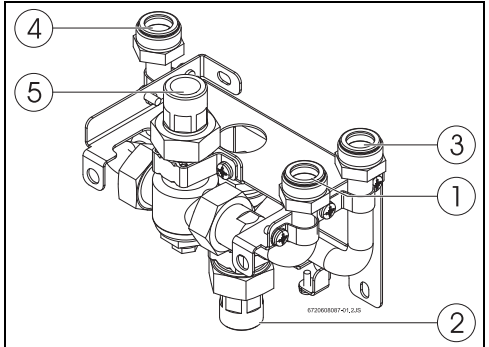

Fig. 3
- ▶ Place the water filter (Fig. 1, [15]) in the water inlet (Fig. 3, [1]).